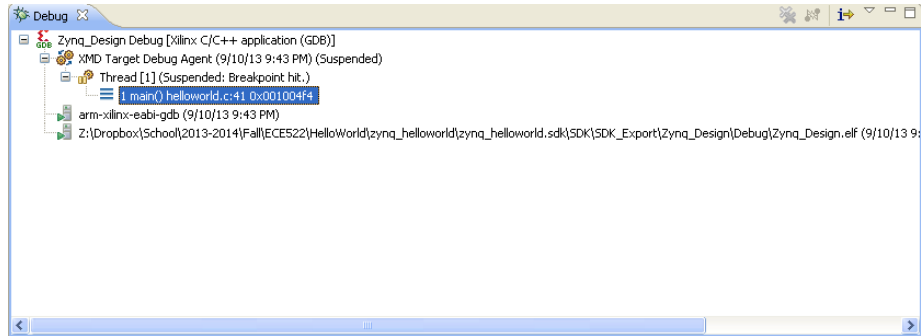

Figure 45: Processor Core to Debug
11. In the **Debug** tab, expand the tree, and select the processor core on which the program is to be run (FIGURE 45).